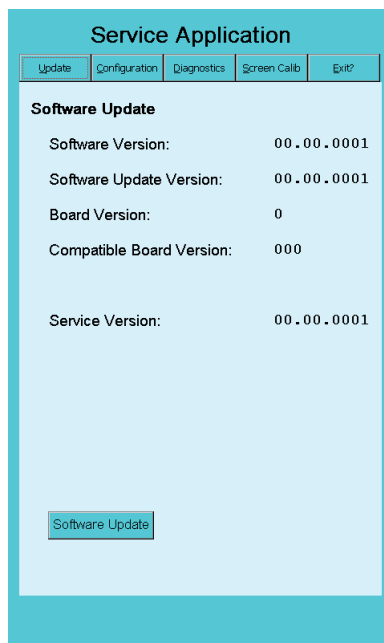

Figure 162 - Software Update Panel
3. Turn on the machine to boot to the SD Card. After about 1 minute, the EFM Service Application opens. The startup screen displays the Software Update Panel which lists the version numbers for the current software and hardware (Figure 162).